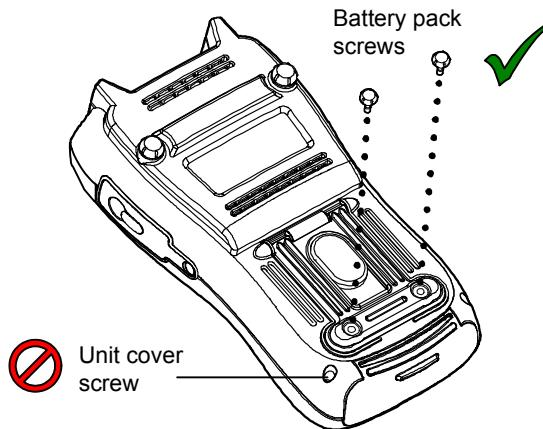

Figure 2-48 Battery pack screws
1. On the back of the unit, remove the two battery pack hand screws at the base of the kickstand. Be careful not to accidentally remove the unit cover screws which require a screwdriver (see Figure 2-48).